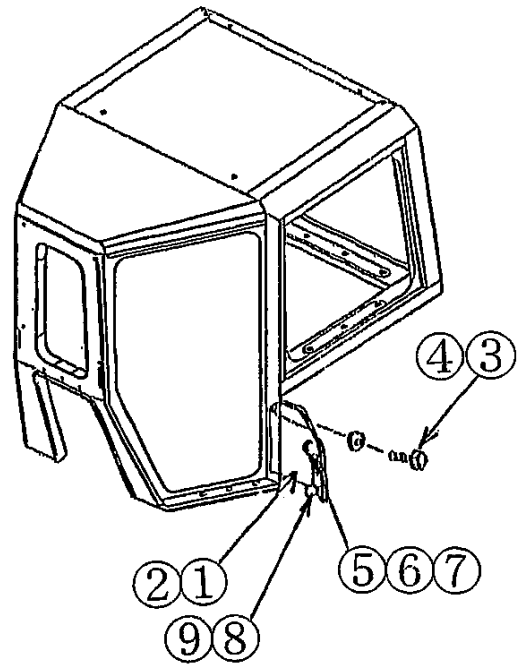

Fig. 1
Install right and left open lock striker mounting brackets (1) and (2) with bolts (3) and washers (4) as shown in Fig. 1.